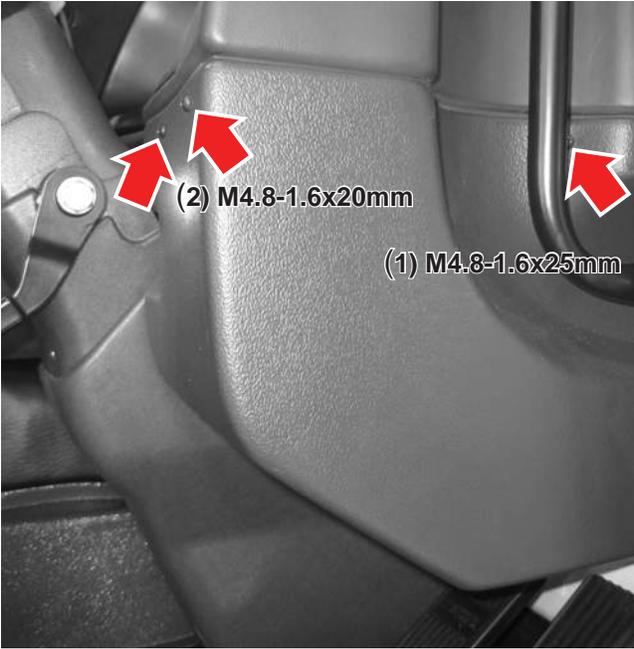

Figure 1-1
1. Remove the three sheet metal screws and set aside for reinstallation (see Figure 1-1).
2. Remove the trim panel and discard (see Figure 1-1).